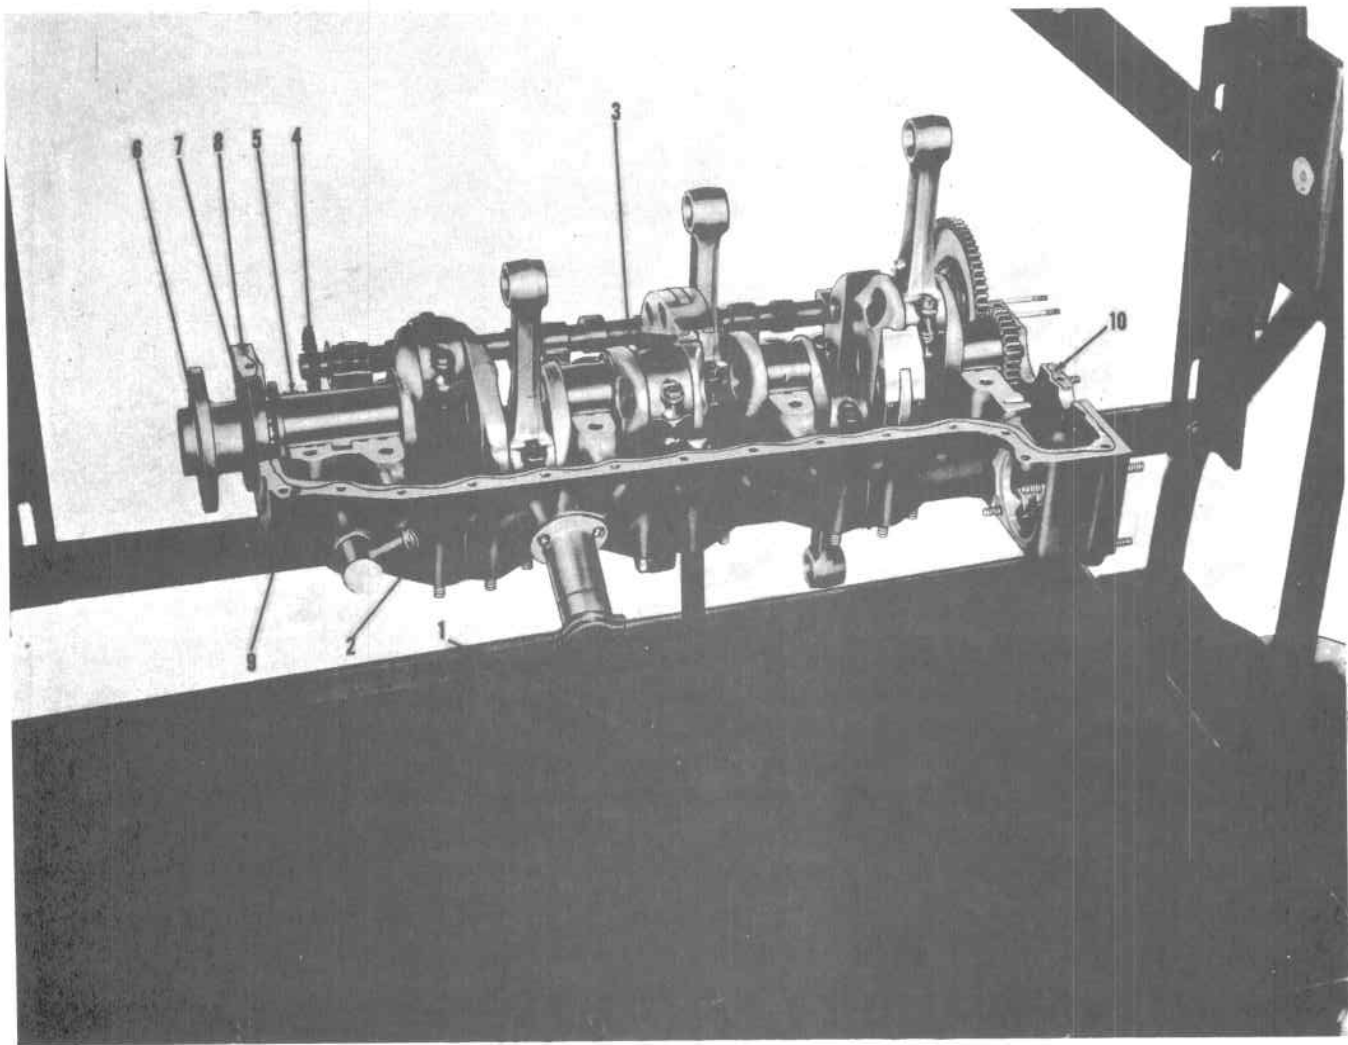

FIGURE 72-10-15B. LEFT CRANKCASE AND SHAFTS SUPPORTED FOR DISMANTLING OR FINAL ASSEMBLY.
B. Turn the engine bed so that the left crankcase will be downward and support it with a 1/2 inch pipe, as illustrated in Figure 72-10-15B.
E. With a nonmarring hammer, tap the upper ends of the right through bolts (34, 35, 36, 37) and pull them downward and out. Remove and discard gaskets (71).
F. Detach the idler gear support pin (29) and hold the idler gear (38) while the pin is withdrawn; then lower it to rest in the left crankcase. Remove and discard gasket (30).